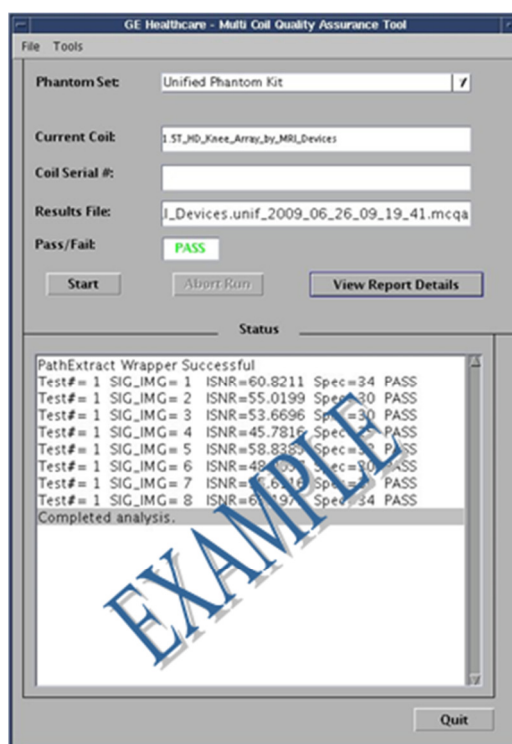

**Figure 5**
**Note:** The Status window of the MCQA Tool GUI will continuously update to give information on what the tool is doing at any point in time. A time bar (Figure 5) will appear, showing approximate total test time, elapsed time and percent complete.